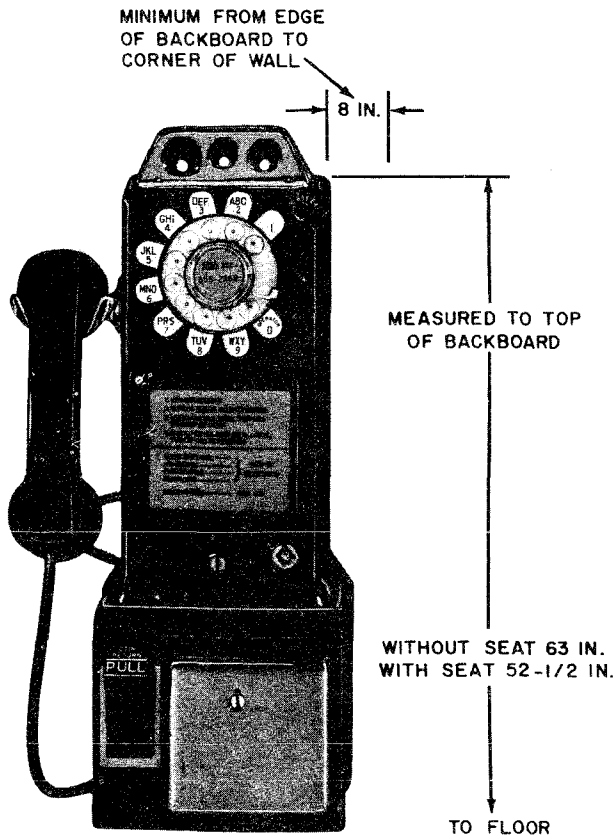

Fig. 2—Suggested Mounting Height and Clearance
2.03 Fig. 2 shows the suggested mounting height and clearance for all coin stations. Stations may be mounted at other heights to meet local conditions providing this does not create service or maintenance problems.